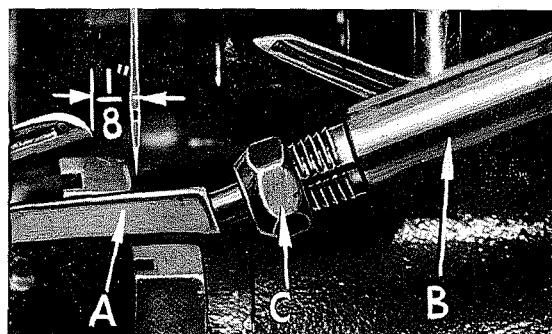

Fig. 5
At this point, insert lower looper (A, Fig. 5) into bar (B). With lower looper at left end of its stroke, set looper point $1\frac{1}{8}$ inch from center of needle (Fig. 5), using looper gauge No. 21225-1 $\frac{1}{8}$. Do not have lower looper deflecting needle. Tighten nut (C).